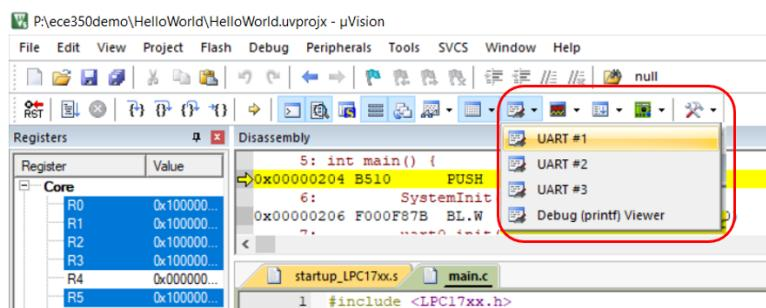
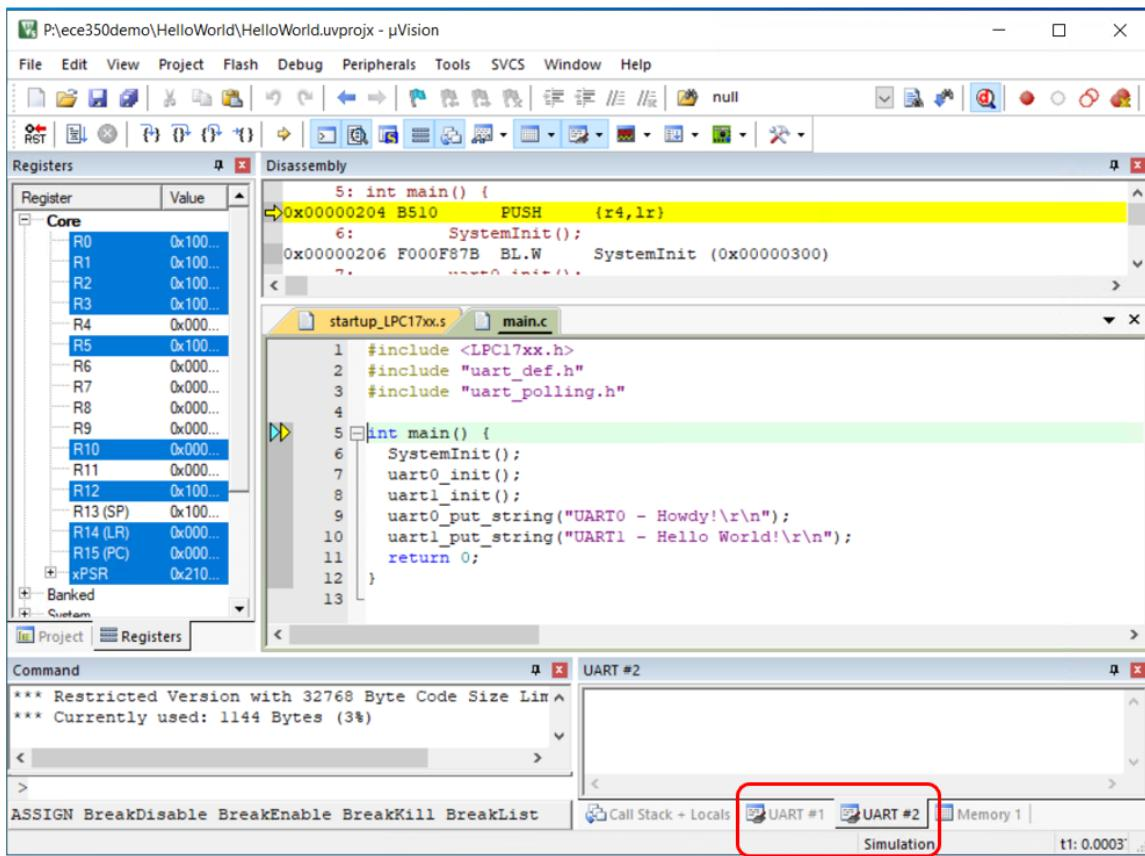

Figure 9.19: Keil IDE: Debugging. Enable Serial Window View.
Figure 9.20: Keil IDE: Debugging. Both UART0 and UART1 views are enabled in simulator.
3. Select UART1 and UART2 (see Figure 9.19) from the serial window drop down list so that they appear in simulator (see Figure 9.20). Note that the hardware UART index starts from 0 and the simulator UART index starts from 1. So the UART1 window in simulator is for the UART0 on the board. The UART2 window in simulator is for the UART1 on the board.